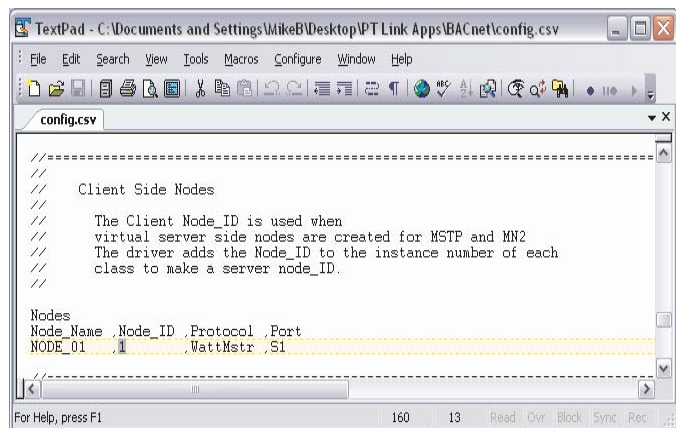

Figure 18: Changing the Node ID in Notepad
12.) You can change the Node_ID under ‘Client Side Nodes’ which is the N2 Device Instance Number (**Figure 18**). The default is 1. You can obtain this information from your BAS Integrator. To see how the N2 Address is calculated, see page 14.